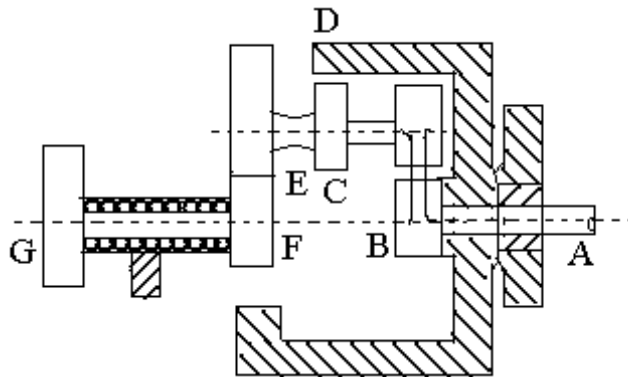

Figure 3:
8. An epicyclic reduction gear, as shown in Figure 3 has a shaft A fixed to arm B. The arm B has a pin fixed to its outer end and two gears C and E which are rigidly fixed, revolve on this pin. Gear C meshes with annular wheel D and gear E with pinion F, G is the driver pulley and D is kept stationary. The number of teeth are: D = 80; C=10; E=24 and F=18. If the pulley G runs at 200 r.p.m. find the speed of shaft A.